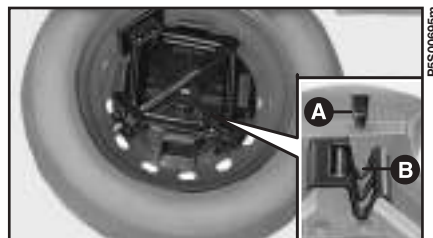

fig. 8
2) Put the jack back in its support making sure pin **A**-fig. 8 coincides with jack groove **B** then place the unit in the wheel that has been changed.